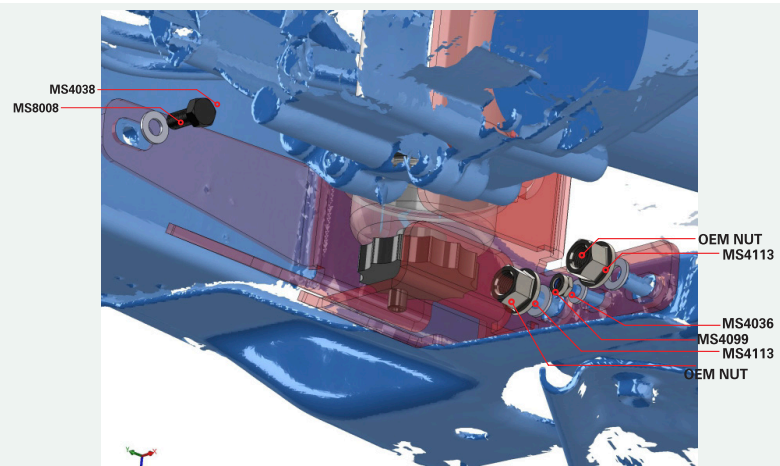

FIGURE 3C
- 5 Install the following components to FB9805FC bracket as shown in FIG. 3C